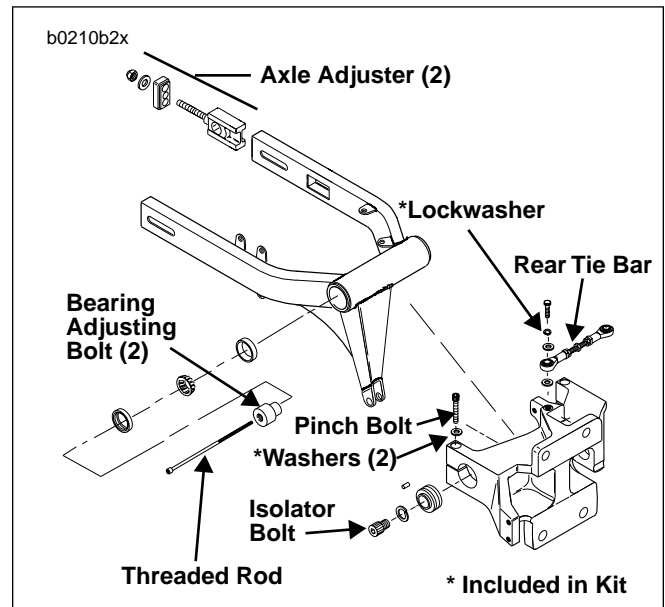

Figure 3. 1997-98 Swingarm and Mount Block
For 1997-98 All Models (See Figure 3):
- a. See Figure 3. Install left side bearing adjusting bolt (which has internal threads for threaded rod) through mount block by first pulling the frame to the left and sliding the adjuster bolt in between the frame and mount block. Make sure adjusting bolt head is flush with mount block.